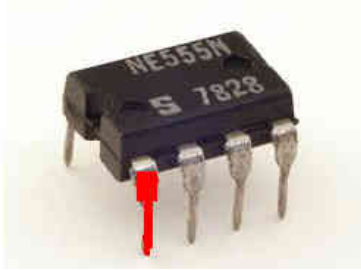

Figure 6.3: Pin 1 Shown in Red
3. If all else fails, you can use the text on the IC. Pin 1 will be the leftmost pin below the text. Refer to Figure 6.3 on page 7. Here, any of the three methods will work.